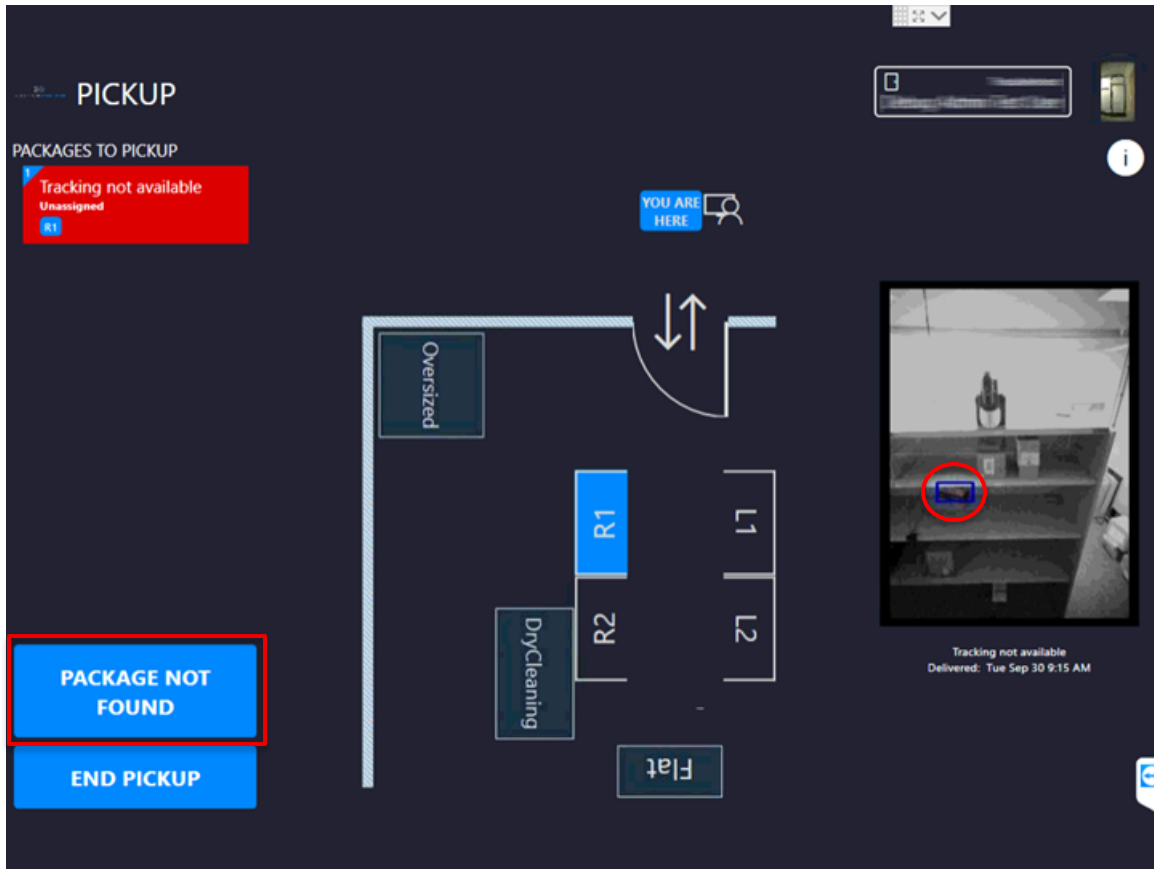

Figure 55: Package to pick up with issues
- f. If there is no package on the shelf, tap **Package Not Found**, see Figure 55.
In the example below, for “Tracking not available”, R1 is blinking on the Room Map. The blue box in the image indicates the package with the issue, the red laser points to the location where the package is. Refer to Figure 55.